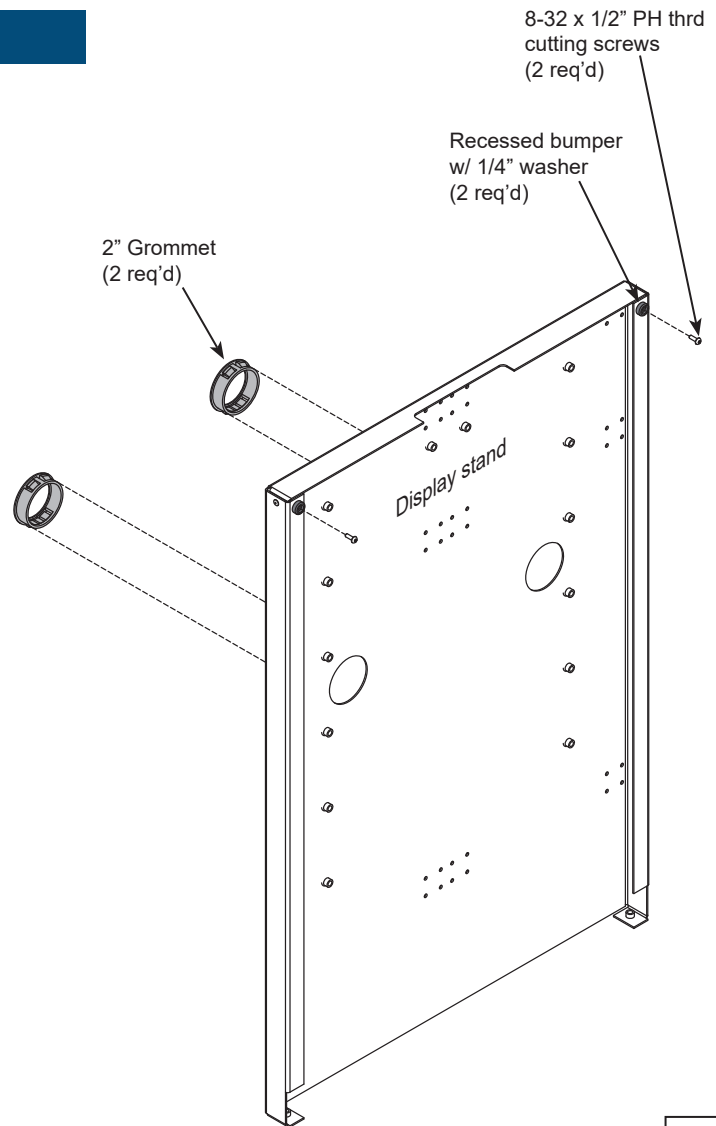

Figure 2
1. Install the (2) recessed bumpers into the upper corners of the display stand and tighten securely. **Figure 2.**
2. Install the (2) grommets.